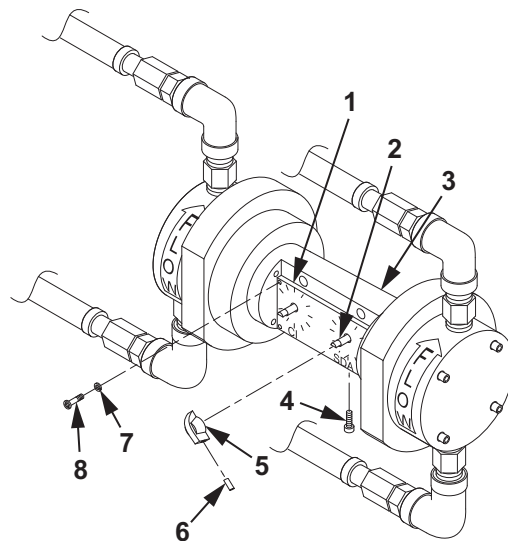

Figure 1. Fuel Additive Injection Pump Power Frame Cover Removal.
1. Mark position of stroke two adjustment knobs (Figure 1, Item 5) on the power frame cover (Figure 1, Item 1) for assembly purposes.
2. Loosen two stroke adjustment screws (Figure 1, Item 4) on bottom of power frame (Figure 1, Item 3).
3. Loosen two setscrews (Figure 1, Item 6) on two stroke adjustment knobs (Figure 1, Item 5).
4. Remove two stroke adjustment knobs (Figure 1, Item 5) from two stroke adjustment cams (Figure 1, Item 2).
5. Remove four screws (Figure 1, Item 8) and lockwashers (Figure 1, Item 7) from power frame cover (Figure 1, Item 1). Discard lockwashers (Figure 1, Item 7).
6. Remove power frame cover (Figure 1, Item 1) from power frame (Figure 1, Item 3).